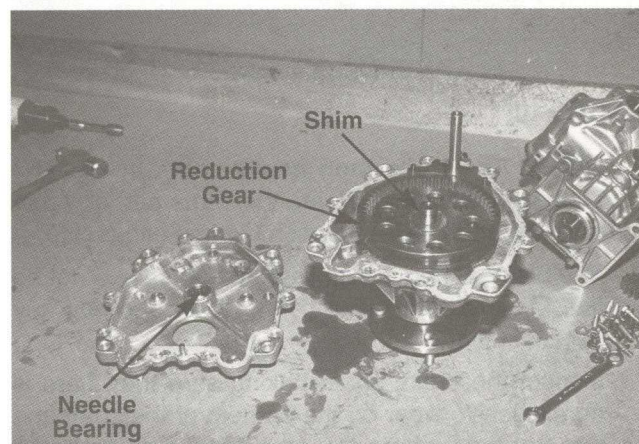

FIGURE 8.
8. Visually inspect the parts in the housing. Check that the shim is in place and inspect the gear teeth for any obvious damage. Remove the shim and make sure it is not waved like a potato chip, an indication of heat or excessive wear. See figure 8.